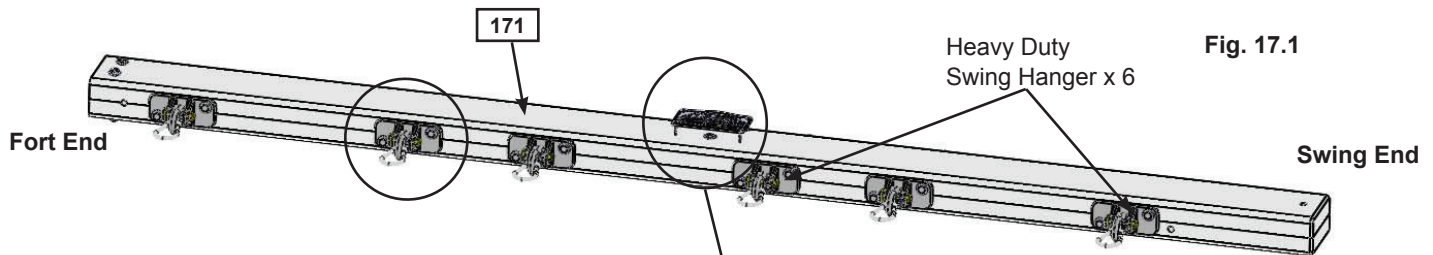

Fig. 17.1
A: Attach 6 Heavy Duty Swing Hangers to (171) Engineered SW Beam using 2 (G13) 5/16 x 6-1/8" Hex Bolt (with 2 flat washers, plastic formed washer and lock nut) per swing hanger, as shown in fig. 17.1 and 17.2.
C: Install 1 (WB7) 5/16 x 3" Wafer Bolt (with flat washer and t-nut) in the middle bolt hole, from the bottom up, in (171) Engineered SW Beam as shown in fig. 17.1 and 17.4. **IT IS IMPORTANT THAT THIS BOLT IS ATTACHED. IT WILL MINIMIZE CHECKING OF WOOD.**